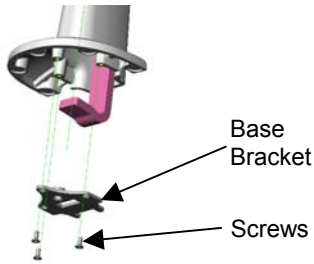

Figure 4. Remove Base Bracket
1. Using the 2.5mm hex key, remove three screws and the base bracket from the bottom of the desk clamp (see Figure 4).
1. Remove three screws and the base bracket from the bottom of the desk clamp (see Figure 4).